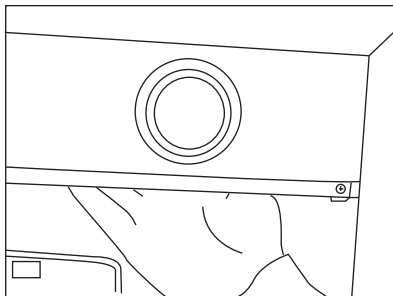

FIG. 16
2. Reach within the unit and push out the lamp housing towards you. See Fig. 16.